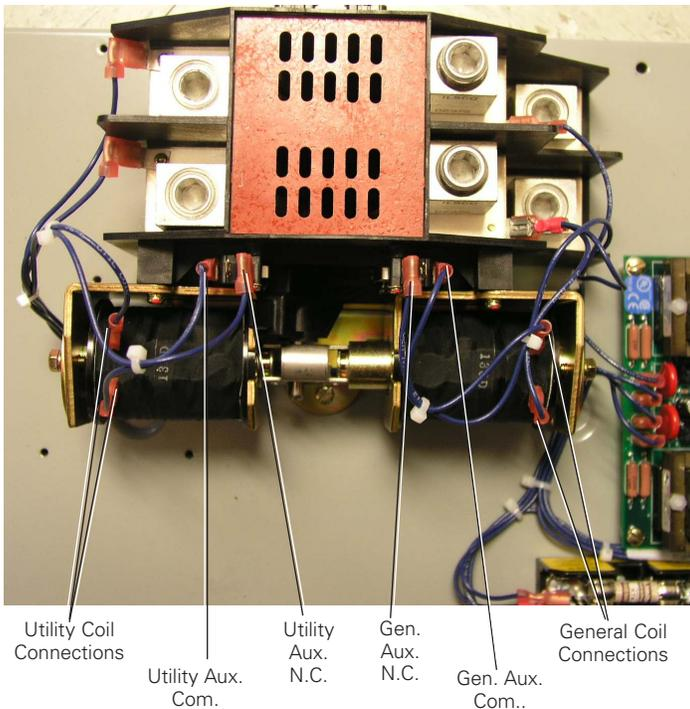

Figure 27. Wires to Disconnect from the Contactor.
Step 6: Reattach the red wires to the contactor. Examine each wire to find the name then refer to Figure 27 for the correct connection point.
- Step 4: Remove the four (4) screws securing the contactor to the base plate using a blade screwdriver or 0.25 in. socket or nut driver.
- Step 5: Remove the two (2) generator lugs and the two (2) load lugs using a blade screwdriver (see Figure 27).
- Step 6: Once the load lugs have been removed, insert a blade screwdriver up through the circular hole in the load lug bus and remove screws securing the two (2) generator lugs.
- Step 7: Place the new utility lugs on the utility bus so the anti-turn protrusions fit in the holes. Once the lugs are in place, take one (1) supplied control wire terminal and hold it underneath the bus. Using one (1) screw and one (1) washer supplied, tighten the control wire terminal and lug to the utility bus. Repeat the process of the second utility lug. Ensure that no gaps are present between the lugs and bus.
- Step 8: Place the new generator lugs on the generator bus. Once the lugs are in place, take one (1) supplied control wire terminal and hold it underneath the bus. Using one (1) screw and one (1) washer supplied, tighten the control wire terminal and lug to the generator bus. Repeat the process of the second generator lug. Ensure that no gaps are present between the lugs and bus.
- Step 11: Reattach the red wires to the contactor. Examine each wire to find the name then refer to Figure 27 for the correct connection point.